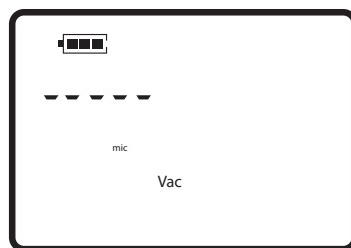

Figure 13
2. The **Vacuum Display Screen** (FIG 13) appears.